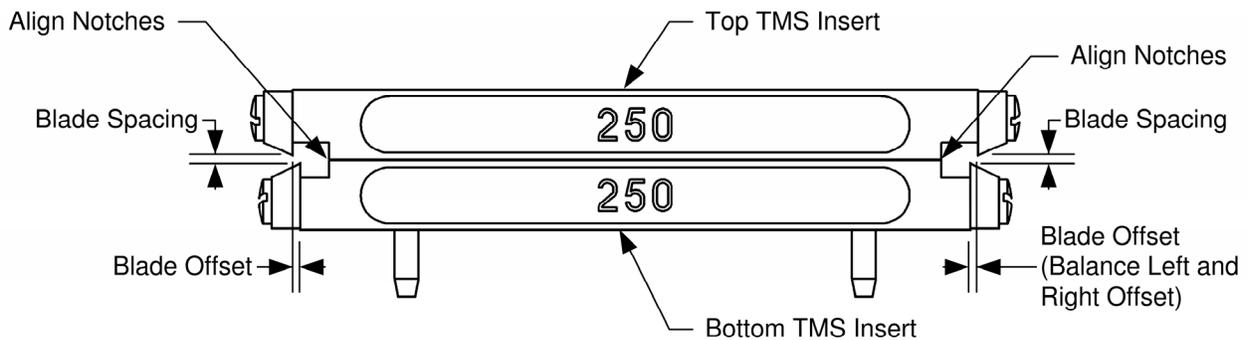

Figure 57 Aligning the Top TMS Insert
4. Align the top TMS insert so that the offset on the right and left side between the top and bottom plates is the same. This should correspond to aligning the “notched” edges of the top and bottom insert as shown in Figure 57.